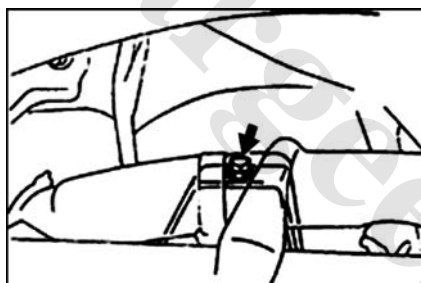

Fig. 2-47
- ① Remove the bolts from the brake pedal support. See Fig. 2-47.